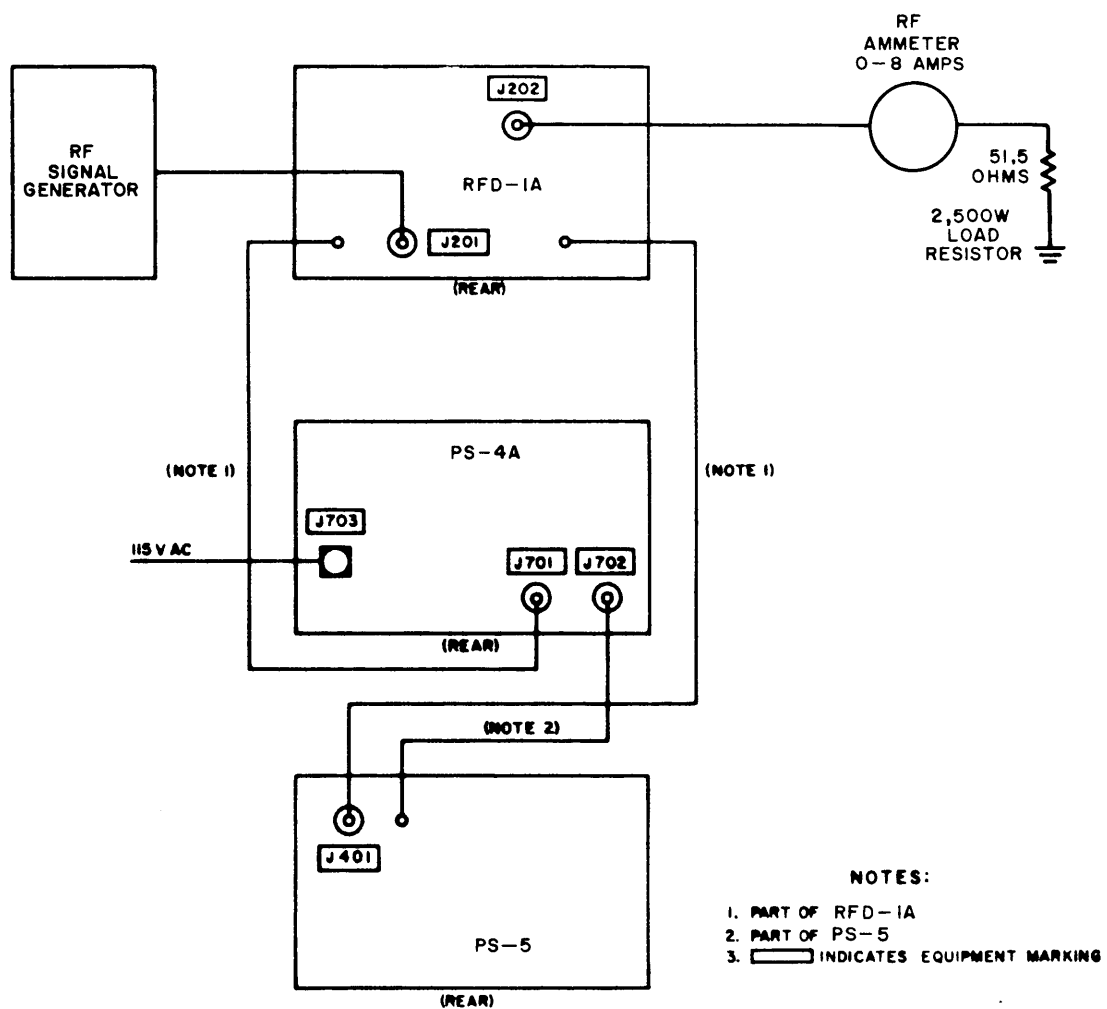

Figure 5-1. Test Setup for Trouble-Shooting PAL-1K(A)
Connect PAL-1K(A) to line voltage and dummy load as shown in figure 5-1. Do not connect r-f signal generator until step 8 of table 5-1. Test equipment required is as follows:
Set up equipment as shown in figure 5-1.